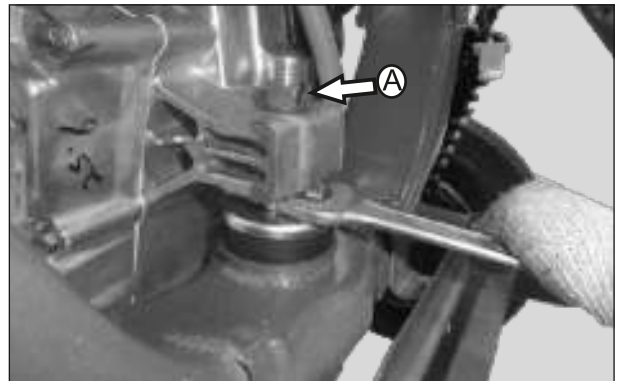

Fig. 3.13
- Loosen and remove 1no. Hexagonal nut M10 along with a punched washer and a spring washer from front engine mounting (A). (Fig. 3.13)